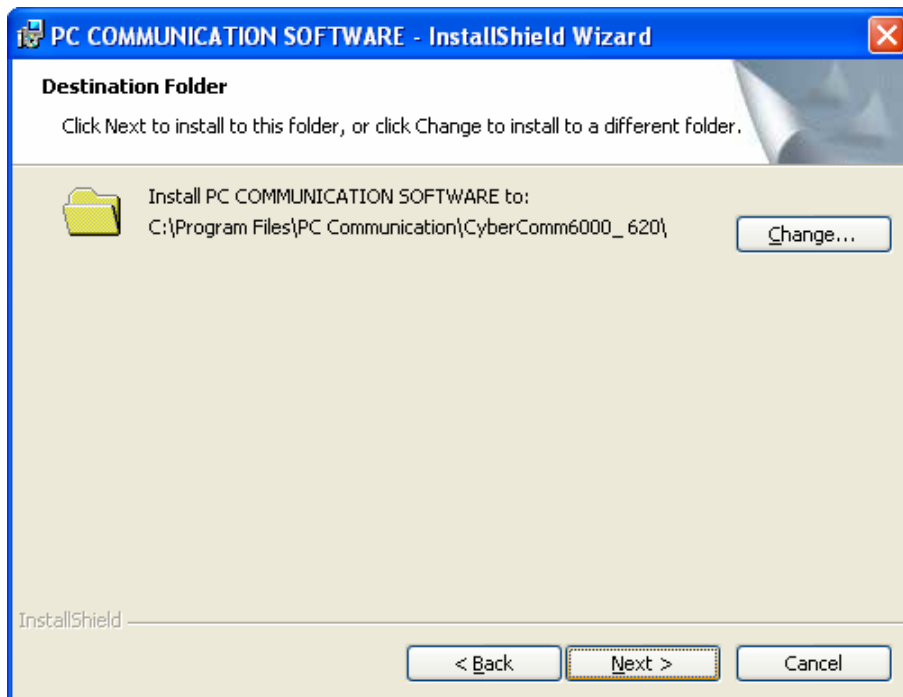

Figure 4 : Destination folder
4. By default, the program will be installed into 'C:/Program Files/ PC Communication/Cybercomm6000_620' folder. Click **Next** to install the program in this folder. Optionally, click **Change** to install into a different folder. (Figure 4)